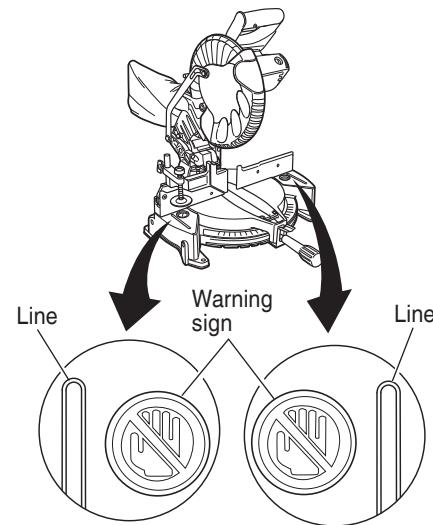

Fig. 19
- \* Never place your limbs inside of the line next to warning sign while the tool is being operated. This may cause hazardous conditions (see Fig. 19).